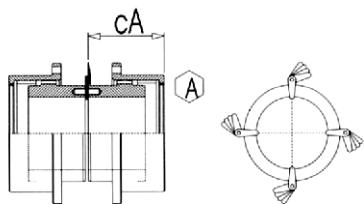

Fig.01
- H.1 Determine the angular misalignment value by processing, in accordance with the scheme below, the measurements of the head parallelism between the reference face surfaces of the two hubs. For this purpose, by inserting the thickness gauge between the heads of the two hubs, perform a first 360° test to identify the position and the min. and max entity of the distance between the hubs. After defining the extreme positions, take a precise measurement of four points at 90° , as **A** in Fig. 01.